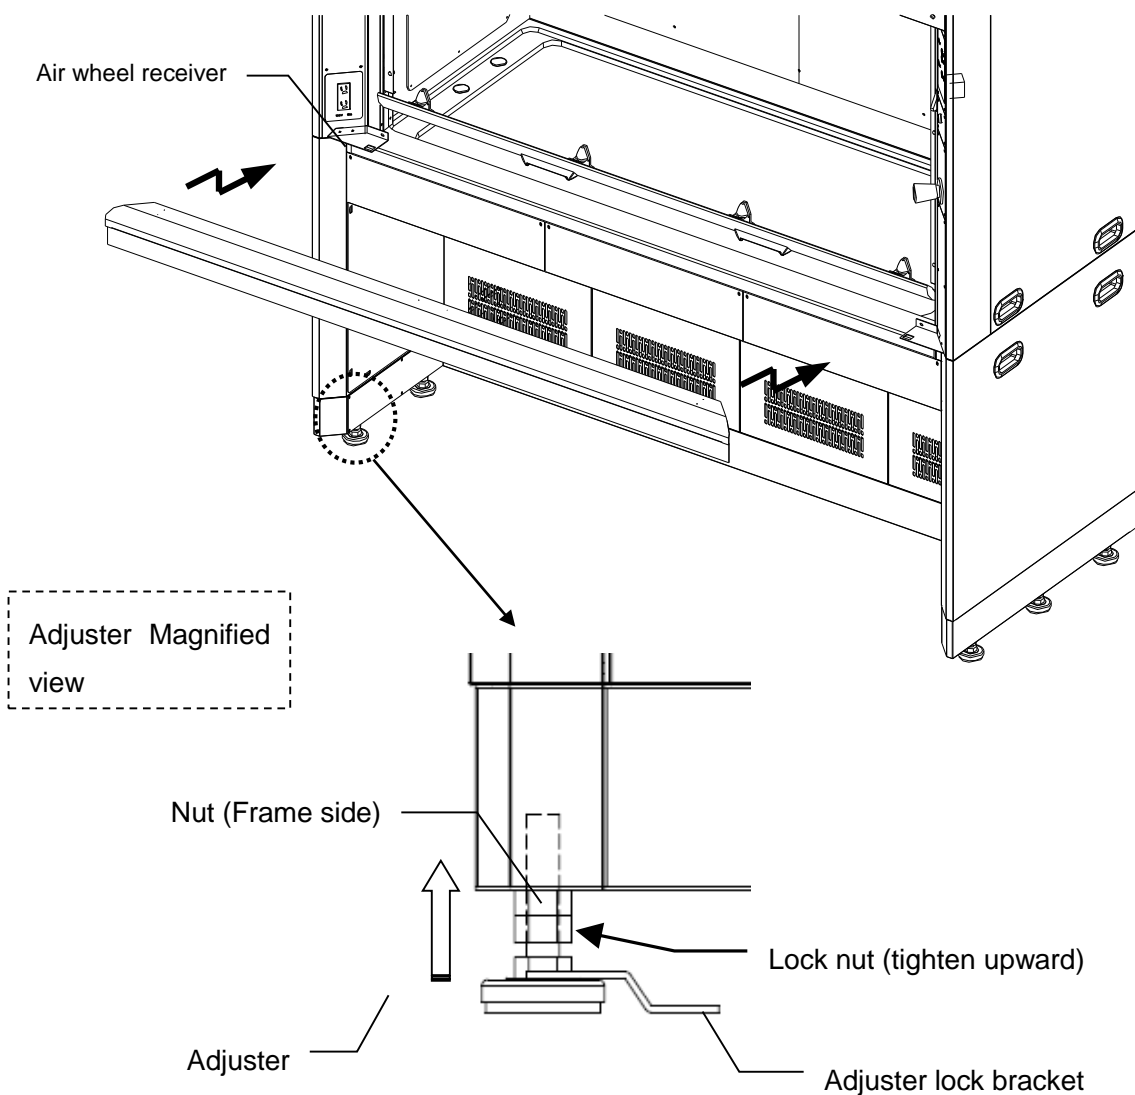

Fig. 2-2
- ⑤ After the upper and lower sections are combined, level the working surface with adjusters and lock at the positions with lock nuts (see Fig. 2-2)
- ⑥ In the case of air curtain, both the outlet and the fluorescent power cord into the frame through a through hole in the left. Similarly the switch board cord into the frame through a through hole in the right. The other type are unnecessary.
- ⑦ Bring the power supply cord for power outlet and lighting and the cord for SW circuit board into the frame through holes of left side plate and right side plate, respectively.
- ⑧ Bring the differential pressure measurement tubes into the frame through the hole on the right side plate, and connect each tube to each nozzle at the back side of pre-filter differential pressure gauge (Fig. 2-2).